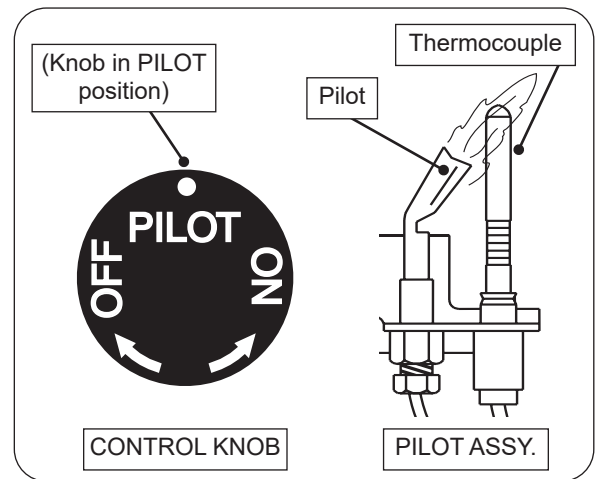

Fig. 35-1 Pilot lighting
3. Locate the pilot assembly on the side or rear of the burner pan (see Fig. 35-1).
4. Turn the control knob counterclockwise to **PILOT**. Push the knob **firmly and fully** in and hold. Hold a lighted long-stem match/ long-necked butane lighter near the thermocouple to light the pilot. Continue to hold the knob in for about one (1) minute after the pilot is lit. Release the knob and it will pop back out. The pilot will remain lit. See Fig. 35-1. If it goes out, repeat steps 2-4.